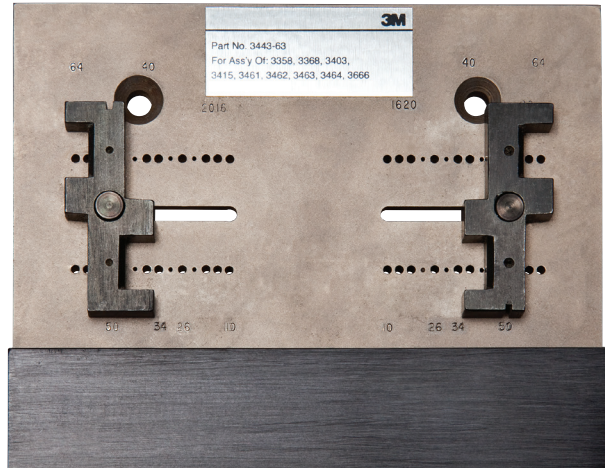

Figure 1
- 2.1 Position connector guides for the appropriate number of contacts in the connector. Numbers are found at both ends of the guides. Align both guide notches with the proper position number. Lift and rotate the connector guides as necessary to obtain proper alignment. (Figure 1)